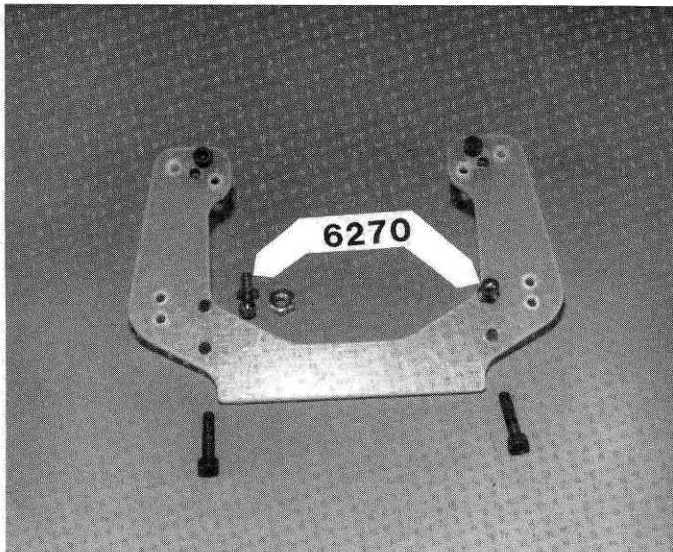

Fig. 14a
□ **Fig. 14a** Take 2 of the short #6270 ball ends and install them in the shock strut in the locations shown. Then install the 2 nuts on the other side.